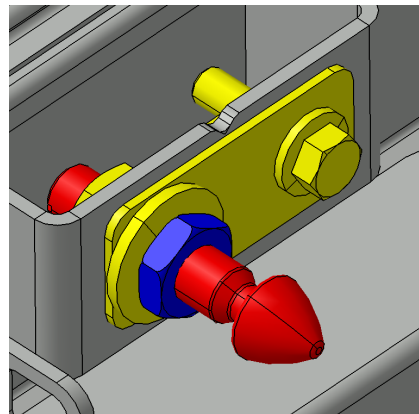

FIGURE 133
- Use the pin to adjust the door so it is even with the adjacent steel sheet. Screw or unscrew the pin as required and then apply final tightening to the jam nut (FIGURE 133).